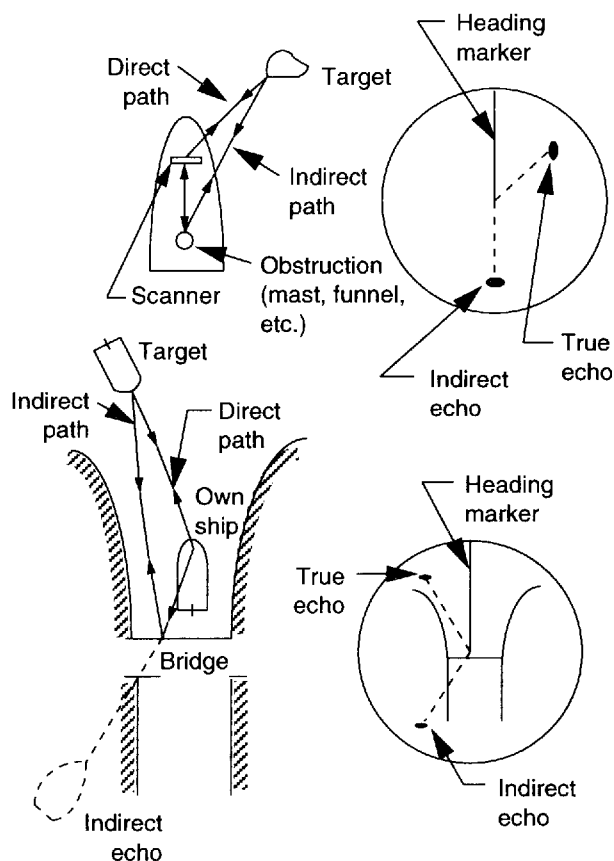

Figure 2-4 Indirect echoes
Indirect echoes may be returned from either a passing ship or returned from a reflecting surface on your own ship, for example, a stack. In both cases, the echo will return from a legitimate contact to the antenna by the same indirect path. The echo will appear on the same bearing of the reflected surface, but at the same range as the direct echo. Figure 2-4 illustrates the effect of an indirect echo. Indirect echoes may be recognized as follows: (1) they usually occur in a shadow sector; (2) they appear on the bearing of the obstruction but at the range of the legitimate contact; (3) when plotted, their movements are usually abnor-